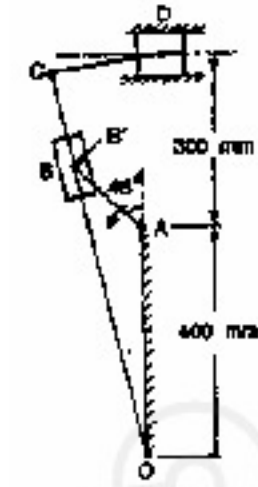

Figure 1.
- (b) A mechanism of a crank and slotted lever quick return motion is shown in Figure 1. If the crank rotates counter clockwise at 120 r.p.m., Determine for the configuration shown, the velocity and acceleration of the ram D. Also determine the angular acceleration of the slotted lever. Crank, $AB = 150\text{mm}$; Slotted arm, $OC = 700\text{mm}$ and link $CD = 200\text{mm}$.